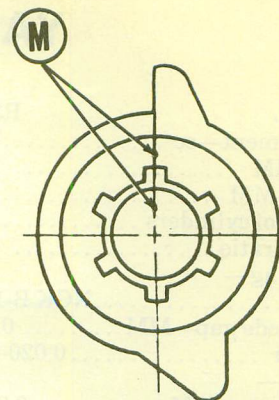
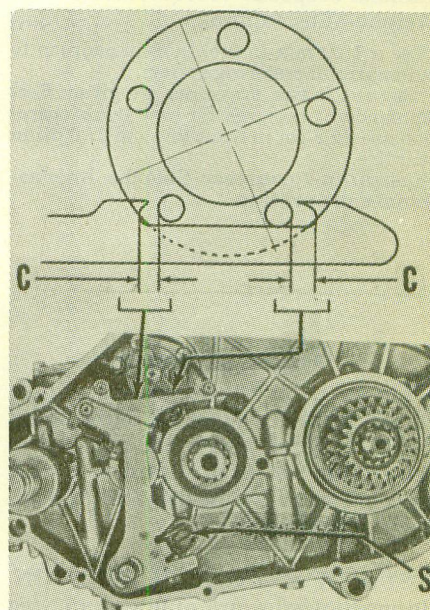

Fig. Y8-24—Align marks (M) on ratchet (14—Fig. Y8-20) and shaft (9) when assembling.
Fig. Y8-25—Turn the eccentric screw (S) until clearance (C) is the same on each side of shift drum pins.
Fig. Y8-24. Install the crankcase lower half making sure that screws are tightened in sequence stamped on lower half. The 6MM screws should be tightened to 87 inch-pounds torque and the 8MM screws should be torqued to 174 inch-pounds. Adjust position of eccentric screw (S—Fig. Y8-25) until clearance (C) between shift ratchet and shift pins is the same.